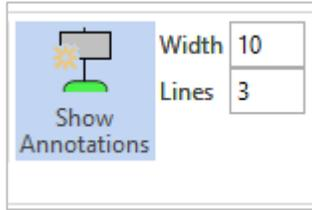

Figure 3-26. Updated Annotation Width and Lines Sizing Boxes
- ⇒ Within the Fault Tree | Display group, change the Width value from "15" to "10" and the Lines value from "5" to "3" as shown in Figure 3-26.